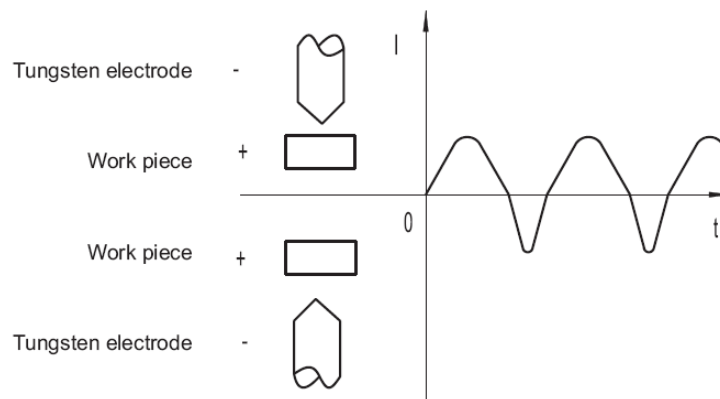

Fig. 5-3-13: Triangle wave
**Triangle wave:** Minimized area (heat) under the curve shape with high peaks. Lower amperages can minimize heat input to the weld. High peaks more forceful for anodized applications. (Fig. 5-3-13)